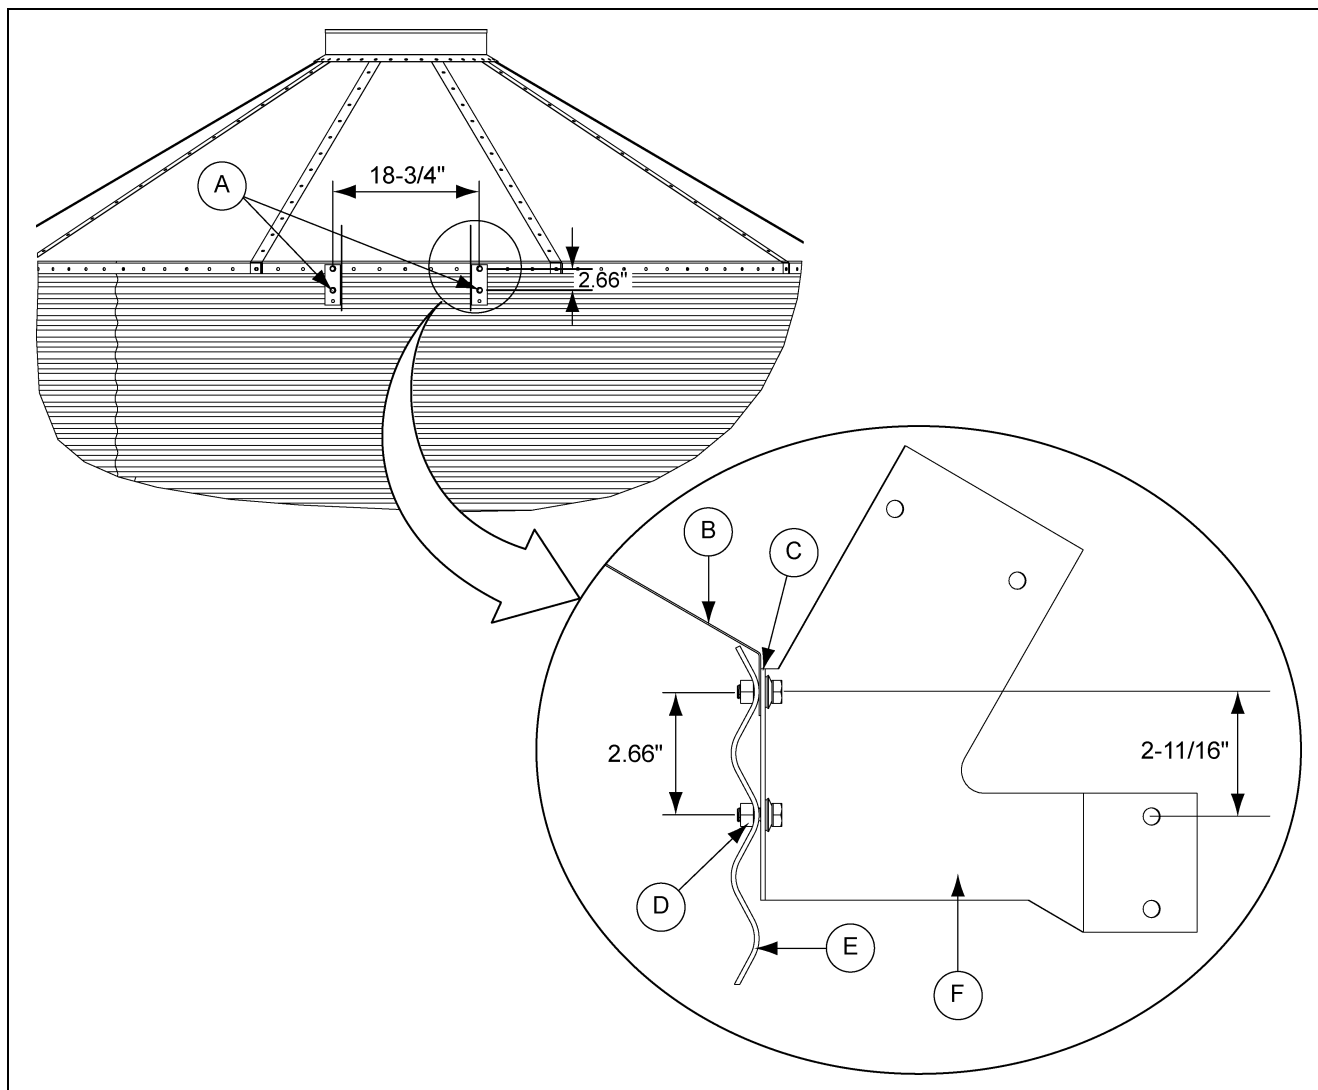

Figure 8B
The starter brackets must be centered in the roof sheet to ensure proper installation of the roof ladder support brackets. Before the starter brackets can be installed, two (2) 3/8" holes must be drilled. The holes must be 2.66" below and directly in line with the top row of pre-punched horizontal holes 18-3/4" apart. Refer to Figure 8B for additional clarification of hole locations. Use 5/16" and 1" bin bolts for connections.